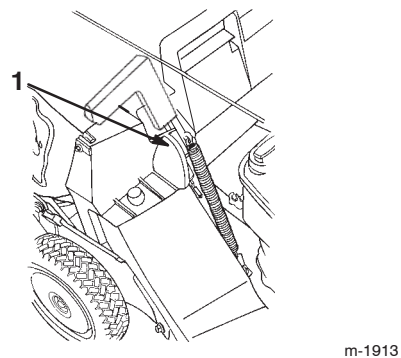

Figure 19
5. Pull the discharge door handle forward until the pin clears the catch, and move the handle rearward until the pin locks in the bag notch (Fig. 19).